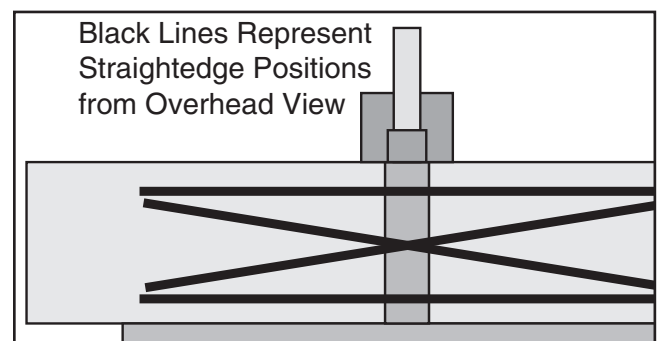

Figure 48. Straightedge positions for checking infeed/outfeed table parallelism.
4. Place straightedge in the positions shown in **Figure 48**. In each position, straightedge should sit flat against both outfeed table and infeed table.